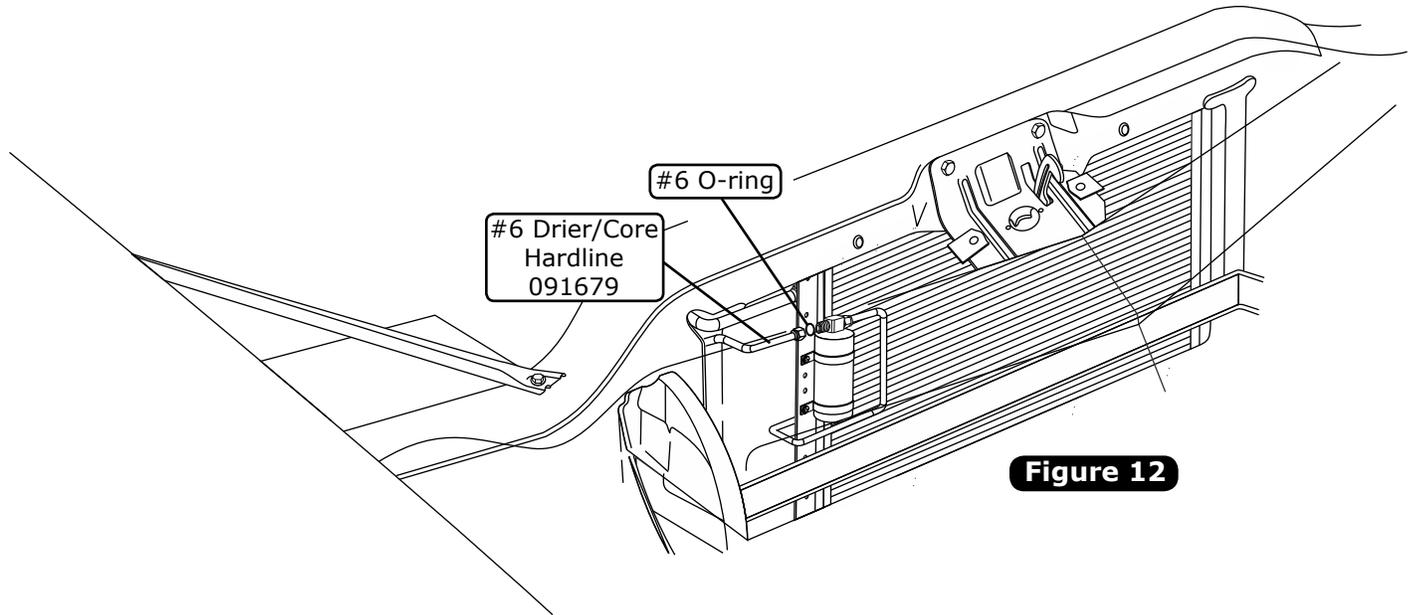

Figure 12
1. Lubricate a #6 O-ring, and install the #6 drier/core hardline as shown in Figure 6, Page 7, and Figure 12, below. Tighten fittings as shown in Figure 6, Page 7.